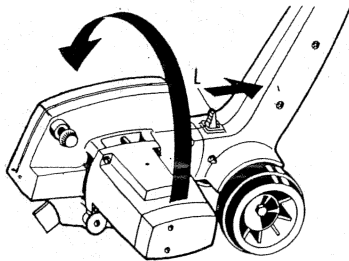
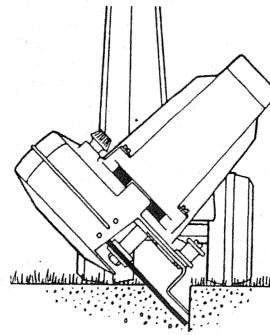
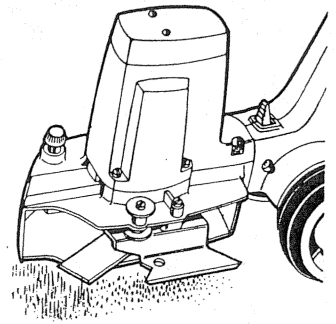

FIGURE 10
FIGURE 11
FIGURE 12
2. Push button "L", Figure 10, in direction of arrow, holding it back momentarily as you start to rotate the cutting head. Release the button, continue rotating, and the cutting head will snap into a locked, 45° position for **TRENCHING**. In this position (Figure 11), the tool will cut a "V"-shaped trench along the edges of flower and shrubby beds, and around trees in preparation for sod removal. Be careful not to tip the front of the tool too far downward or it will dig too deep and stall the tool.
3. To put the cutting head in the **TRIMMING** position (Figure 12), hold the button ("L", Figure 10) back until you rotate the head past, or out of, the 45° Trenching position. Release button, continue rotating, and the head will snap into the locked, 90° Trimming position. Now, with the blade parallel to the ground, you can roll the tool forward for grass trimming. Trimming will be most efficient with a new or sharpened blade, as edging and trenching dull the cutting edges of the blade because of dirt abrasion.